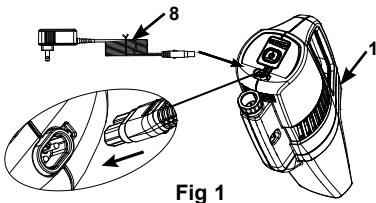

Fig 1
1. Plug the charger into the main electrical outlet and the other end into the vacuum body (1) charging receptacle. See fig 1. The indicator light will turn on.